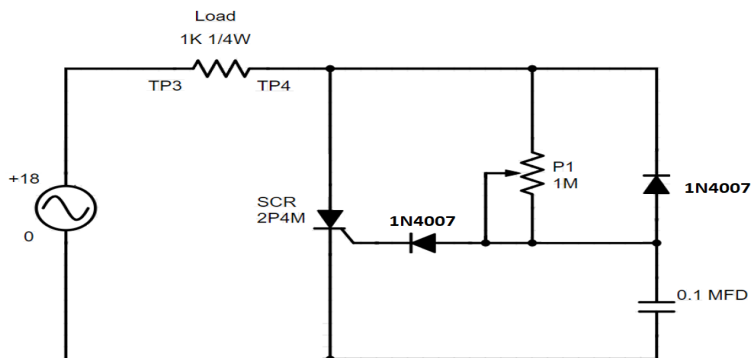

Figure 14
1. Connect the circuit, as shown in Figure 14, using patch cords.